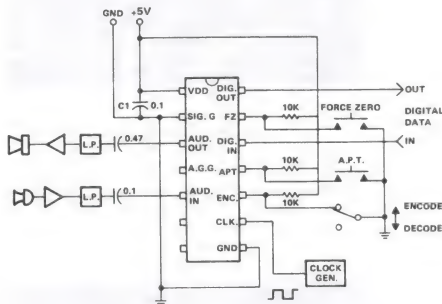

Figure 6 - CVSD Hookup for Evaluation
Figure 6 illustrates a simple evaluation breadboard circuit for the HC-55564. A single device is sufficient to evaluate sound quality, etc. since, when encoding, the feedback signal at pin 3 is identical to the decoded signal from a receiver. The following are some pointers for using the devices:
- 1) Power supply decoupling is essential with the capacitor (C1 in Figure 6) located close to the I.C.